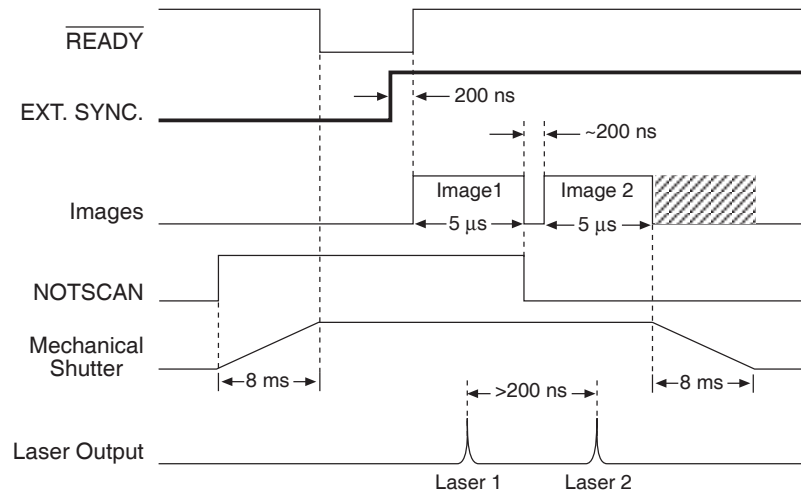

Figure 52. Timing Diagram for Typical IEC Measurement
In this mode, a single external trigger applied to **Ext Sync** initiates two successive image acquisitions of equal duration. The Exposure Time is set in software (Experiment Setup **Main** tab page and elsewhere) the same as in a standard system and can be as short as  $1 \mu\text{s}$ . On initiating the acquisition (**ACQ** button or **Acquire** on the Acquisition menu), the initialization routine runs and the shutter opens. When the shutter is completely open, **READY** drops low and remains in that state until an external trigger is applied to **Ext Sync**. Continuous cleaning takes place until the trigger is applied. When the trigger is sensed, the first exposure begins and the first image is captured (shifted under the masked columns and held there). The exposure for capture of the second image begins. This sequence is illustrated in Figure 52.
**Example 1:** An external trigger initiates the imaging process. **READY** goes low when the system is ready. Once **READY** is low, an external trigger applied to **Ext Sync** initiates the double image capture. Figure 52 illustrates the timing for a typical IEC experiment with an exposure time of  $5 \mu\text{s}$ .